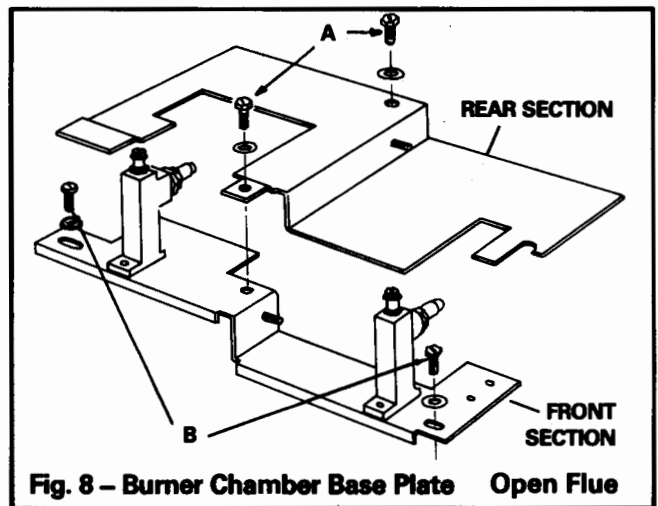

Fig. 8 – Burner Chamber Base Plate Open Flue
- d. **Open Flue Appliance – Fig. 8**
- (i) Remove the rear section of the combustion chamber base plate (See Fig. 8) by releasing the two screws **A**.
- (ii) Remove two screws **B** securing the front section of the combustion chamber base plate (See Fig. 8).